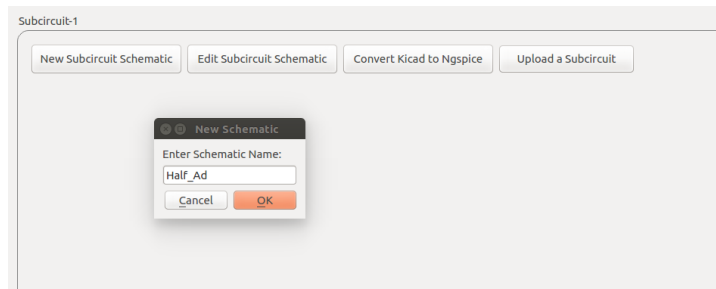

Figure 8.2: New Sub circuit Window
- After opening the Subcircuit tool, click on **New Subcircuit Schematic** button. It will ask the name of the subcircuit. Enter the name of subcircuit (without any spaces) and click OK as shown in Fig. 8.2.
4. Give the same name that was used for creating the new subcircuit's internal diagram, refer Fig. 8.2.
And make sure that the .sub file is present under the directory carrying the name of the subcircuit that you specified in step in Fig. 8.2.